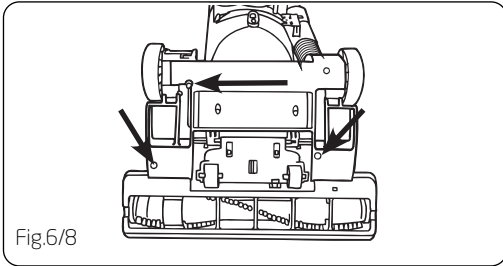

Fig.6/8
With new belt in place, pull and slide brushbar into nozzle making sure that the brushbar end caps are in the correct orientation (Fig. 6/5 inset). Rotate brushbar manually to make sure belt is properly aligned.
Re-attach nozzle guard by aligning the four (4) tabs in the base slots. Rotate nozzle guard back in place (Fig. 6/7).